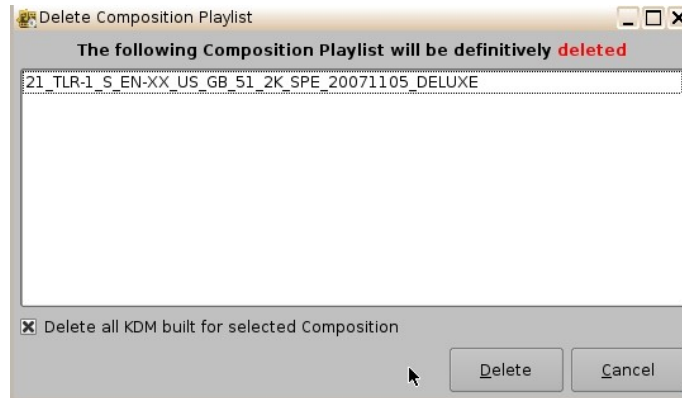

Figure 58: Delete Composition Playlist Window
- A Delete Composition Playlist confirmation window will appear. Click Delete to confirm the deletion or press Cancel to abort the operation (Figure 58).